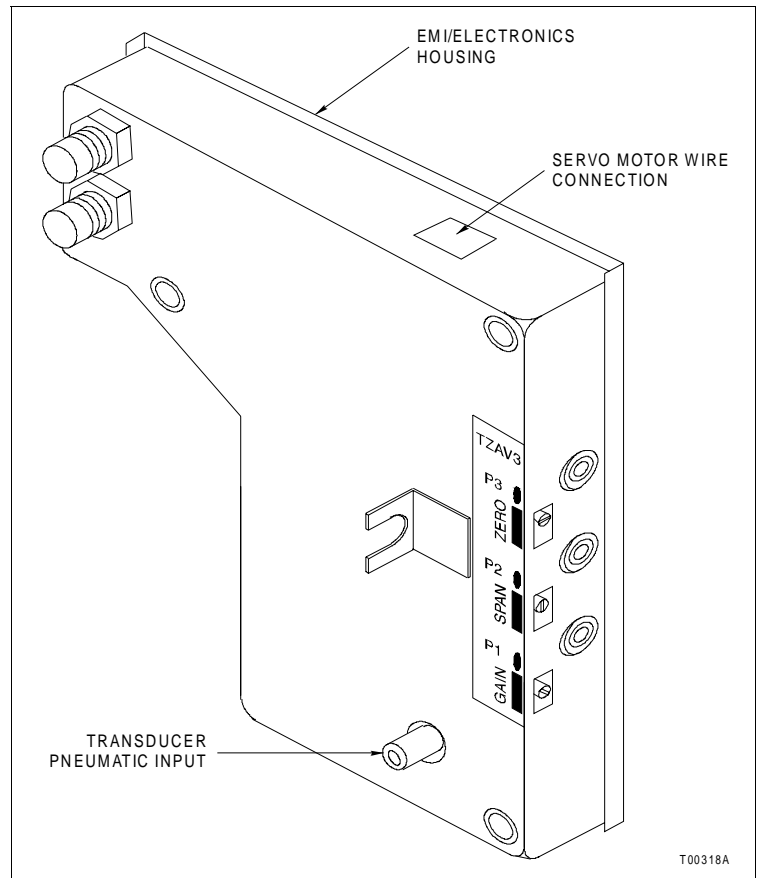

Figure 4-8. Type AV3 Positioner EMI/Electronics Housing
- a. Disconnect the servo motor wires from the EMI/electronics housing (Fig. 4-8).
- b. Set the input current to 4 mA and record the setpoint voltage across P2 and P3 (Fig. 4-8).
- d. Apply a reference pressure to the transducer of the EMI/electronics housing (Fig. 4-8). Do not exceed 138 kPa (20 psig). Adjust the reference pressure to 20.3, ± 1.7 kPa (3.00, ± 0.25 psig). Connect the digital voltmeter across P1 and P3 (feedback voltage) and turn the ZERO potentiometer (Fig. 4-8) until you match within 8 mV of the setpoint voltage recorded across P2 and P3 in Step 6b.
- a. Apply 20 mA and observe the pressure at port I. Increase the gain by adjusting the GAIN potentiometer (clockwise), until oscillation occurs (Fig. 4-8).
- b. Decrease the gain by adjusting the GAIN potentiometer (counterclockwise) until oscillation stops (Fig. 4-8). Then decrease gain another half turn.